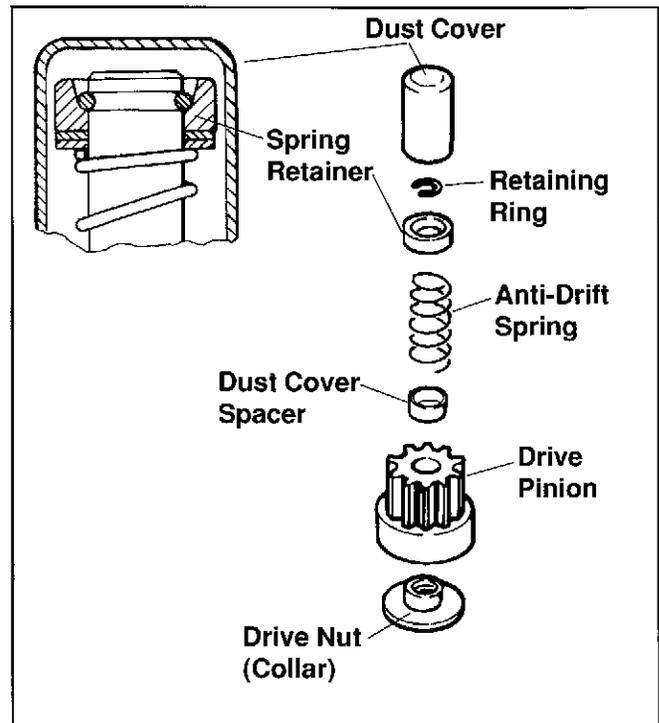

Figure 8-11. Drive Components, UTE "Bonded" Inertia Drive Starter.
1. The rubber dust cover has a molded lip on the inside that snaps into a groove in the dust cover spacer (See Figure 8-11). Turn the drive pinion clockwise until it reaches the fully extended position. While holding it in the extended position, grasp the tip of the dust cover with a pliers or vise grip and pull it free from the spacer.
3. Again referring to Figure 8-11, grasp the spring retainer and push it toward the starter, compressing the anti-drift spring and exposing the retaining ring.